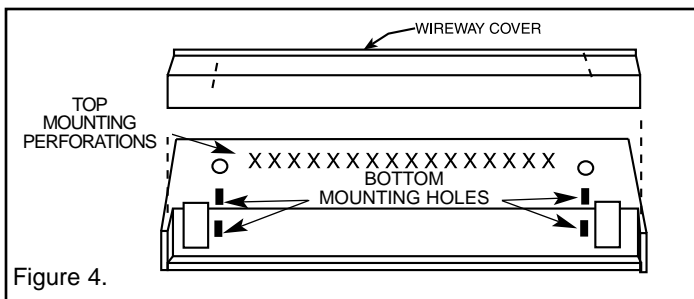

Figure 4.
- b. To gain access to wireway, lay heater face down and remove two screws as shown in Figure 4. Remove the knockouts in the channel areas of both terminal boxes.
6. Position heater to wall (use cross stamped perforations as a guide, see Figure 4) and secure through the top row of predrilled mounting holes using at least two fasteners, one at each end of the heater. If the unit is mounted above the floor to allow carpet installation under the heater, two additional mounting holes are supplied at each end below the element. This will allow you to screw into the sill plate if the unit does not span across two wall studs.